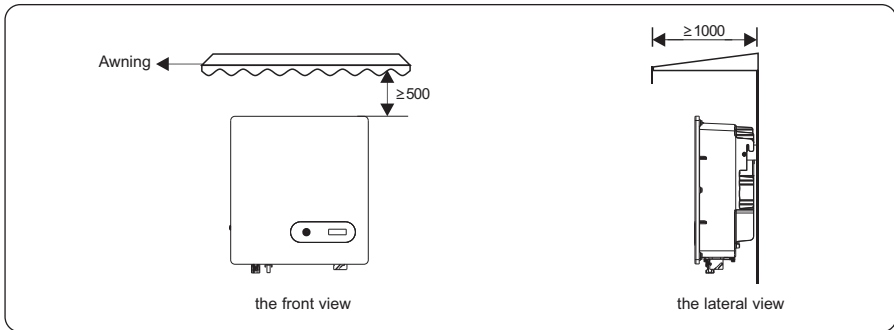

Figure 4.3 Installation environment with awning (unit: mm)
- c. The inverter must be free from direct exposure to sunlight, rain, and snow to extend its service life. It is recommended that the inverter be installed in a sheltered place. If no shelter is available, build an awning, as shown in Figure 4.3.